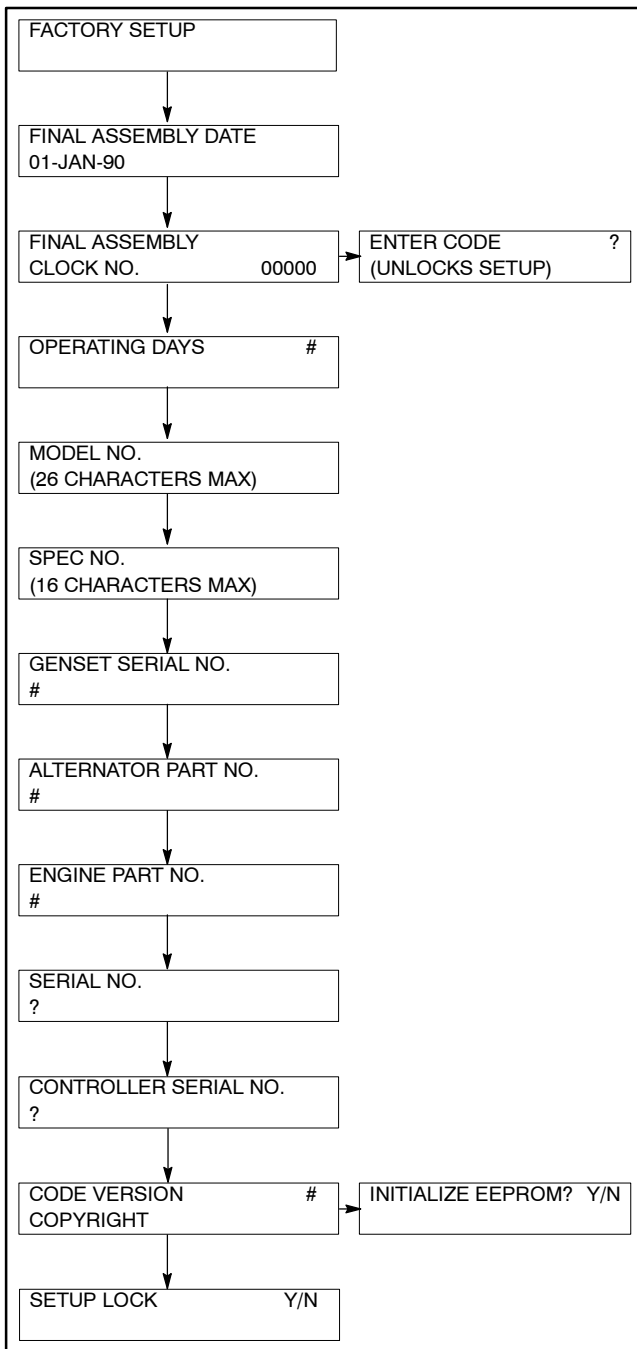

Figure 4 Menu 20, Factory Setup
11.4 Use the controller keypad to go to Menu 20, Factory Setup. See Figure 4 for displays.
11.9 Go to Menu 20, Factory Setup. See Figure 4 for displays.